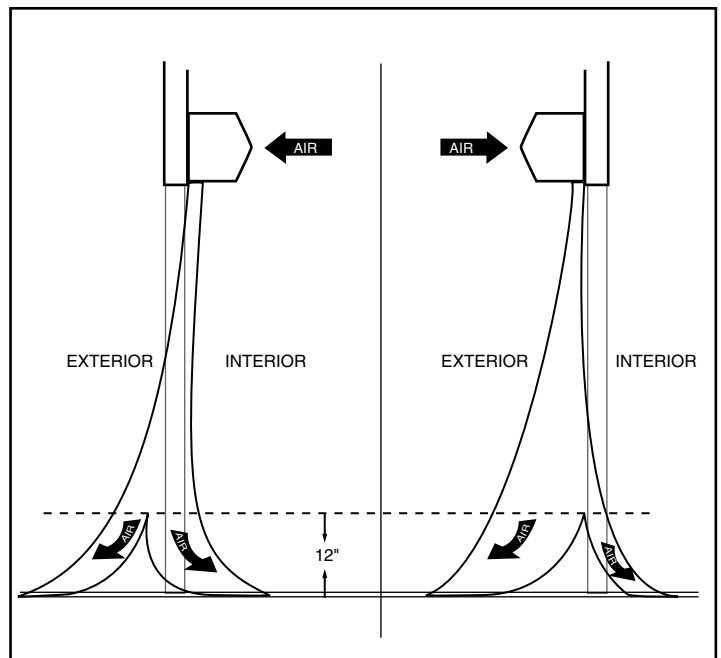

FIGURE 10
- Find the air stream split location. Hold a handkerchief by its corners, approximately 12" above the floor. Gently move the handkerchief back and forth in the doorway. Make sure the air is being directed to both the inside and the outside. **See Figure 10.** The split location is indicated where the handkerchief is vertical with minimal or no fluttering.